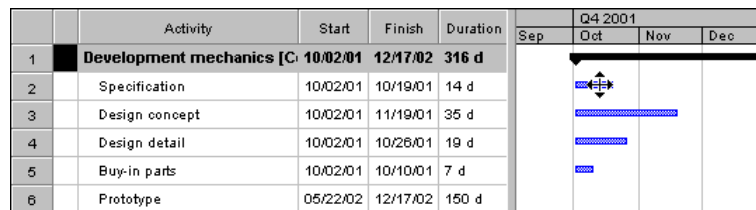

Figure 68: Creating a link ...
1. Move the mouse cursor over the earlier of the activities to be linked (Figure 68).